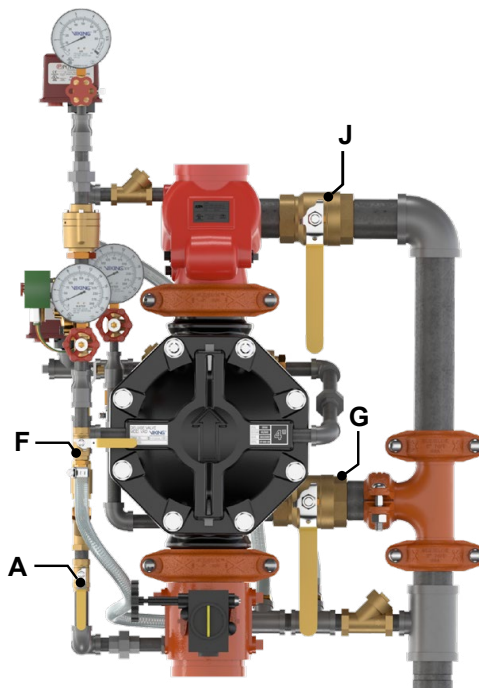

Figure 6: Placing the System in Service
To take system out of service (Refer to Figure 6):
- Verify that the main water supply control valve is open and that all other valves are in their normal operating position and appropriately secured. (refer to Figure 6)